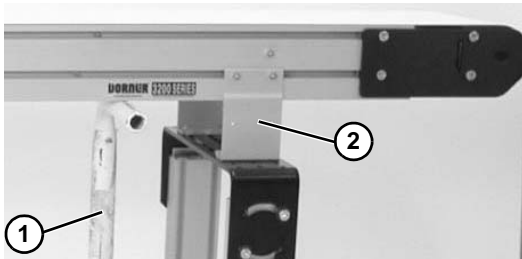

Figure 46
1. Place temporary support stands (**Figure 46, item 1**) at both ends of the conveyor. See WARNING.
4. Remove first mounting brackets (**Figure 46, item 2**) from one side of conveyor. (Reverse steps 2 & 3 of “Mounting Brackets” section on page 18).
1. Ensure temporary support stands (**Figure 46, item 1**) are placed at both ends of the conveyor. See WARNING.